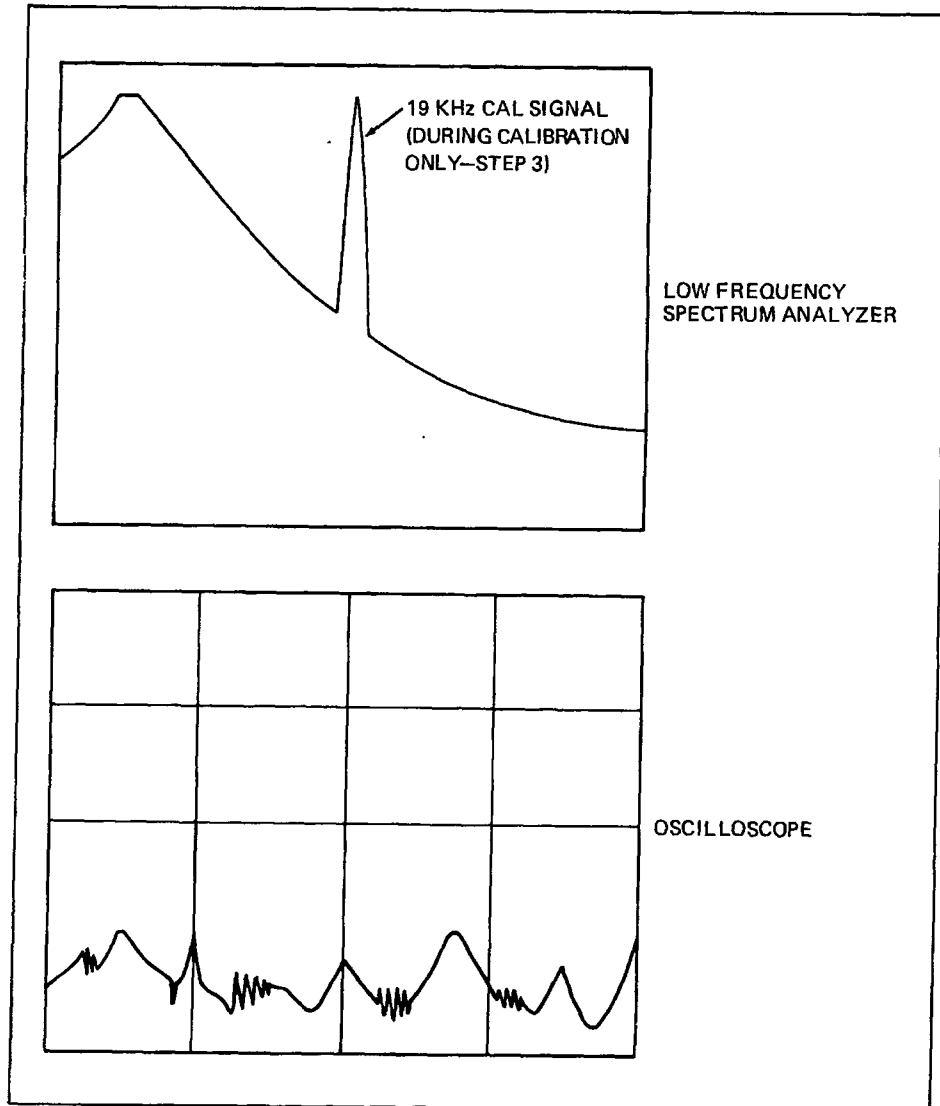

Figure 5-6. Displays During Phase Noise Check
4. Verify that the waveforms on the oscilloscope and the Low Frequency Spectrum analyzer agree with the waveforms shown in Figure 5-6. These waveforms should remain consistent through the remainder of the check.